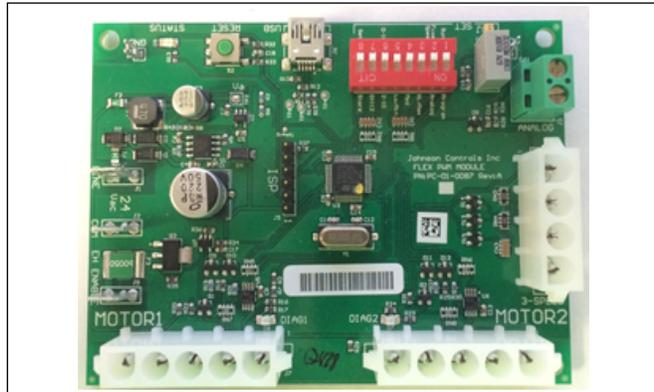

Figure 19 – G3 PWM Board
- a. Locate the G3 PWM board within the control enclosure (See Figure 19).